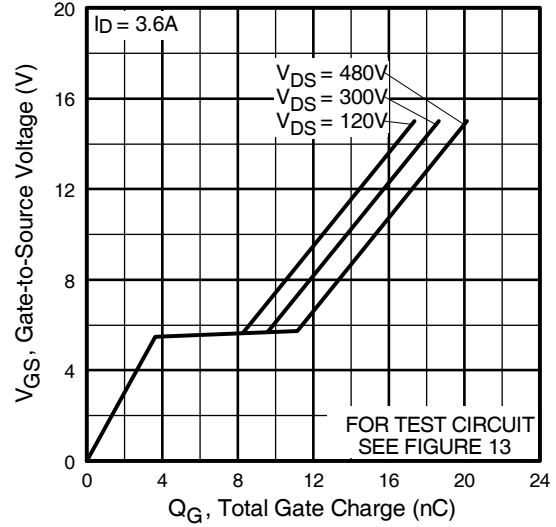

Fig 6. Typical Gate Charge Vs. Gate-to-Source Voltage
| Q_{gd} | Gate-to-Drain ("Miller") Charge | — | — | 11 | | $V_{GS} = 10V$, See Fig. 6 and 13 ④ |